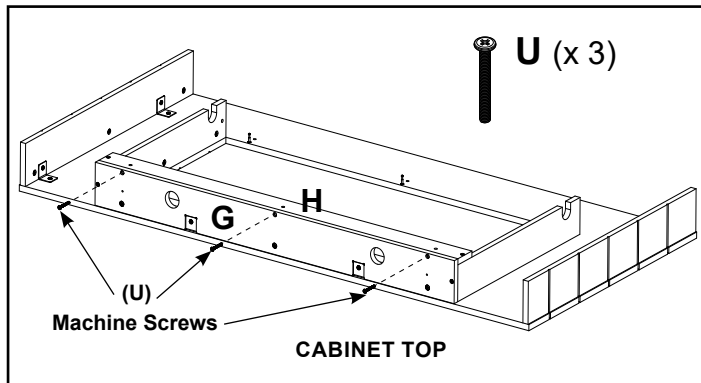

Figure 21
- Secure part "H" to part "G" using three (3) M6 x 50 Machine Screws (U). See Figure 21.